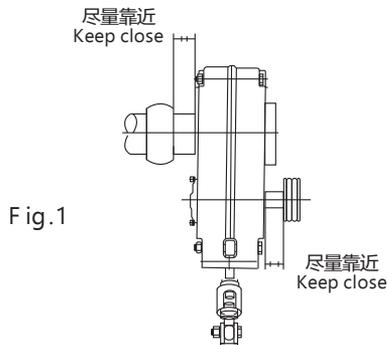

Fig.1
- 1、输入轴上的皮带轮安装时尽可能的靠近减速机，安装减速机到被驱动机时也应该使减速机尽可能的靠近被驱动机若安装得太远会使减速机的轴承承受较大的径向力，造成轴承的过早损坏（如图1所示）。
- 1、 Install pulley on gearbox input shaft as close to the reducer as possible, and mount reducer on driven shaft as close to bearing as practical (See Figure 1) . Failure to do this will cause excess loads in the input shaft bearings and output bearings and could cause their premature failure.